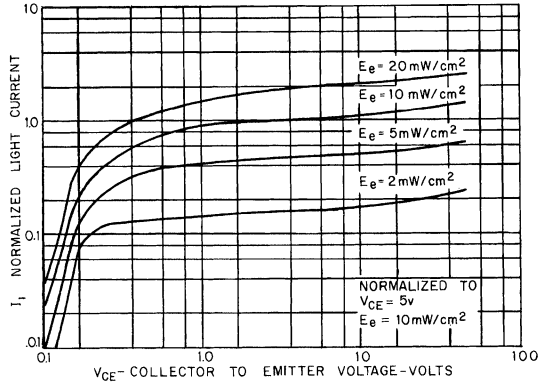
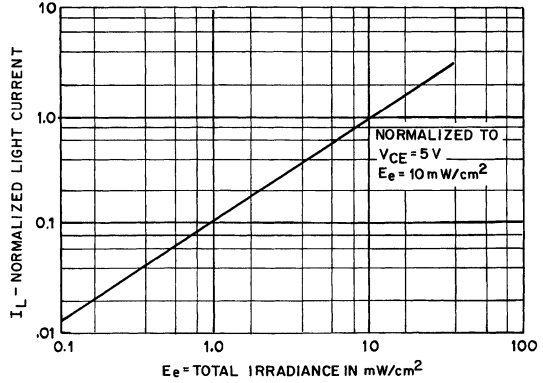

Fig. 1. Light Current vs. Collector to Emitter Voltage ST1062
Fig. 2. Normalized Light Current vs. Radiation ST1067
8. Figure 1 and figure 2 use light source of tungsten lamp at 2870°K color temperature. A GaAs source of 3.0 mW/cm² is approximately equivalent to a tungsten source, at 2870°K, of 10 mW/cm².